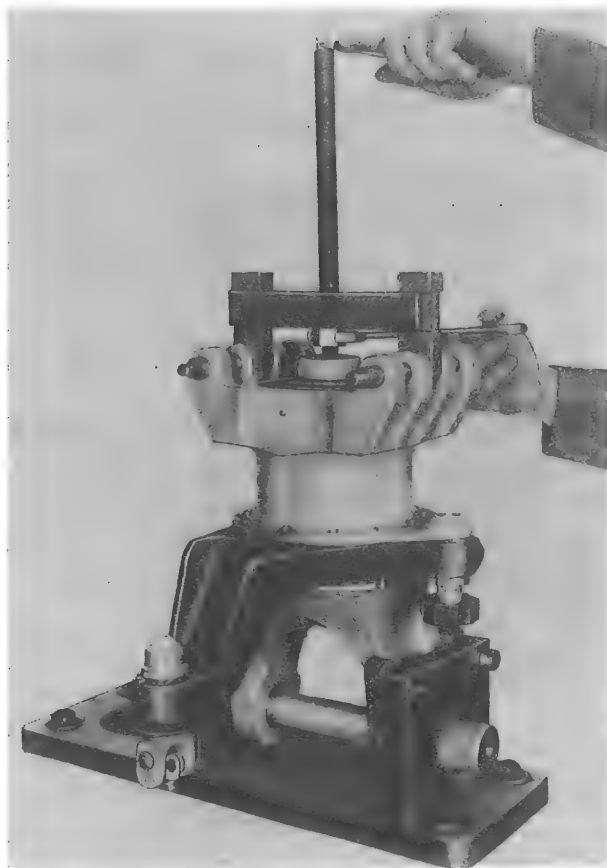

Figure 5-21. Pulling Sleeve and Bearing from Spindle
c. Pull sleeve (26) from spindle (18), using arm puller set, part No. S1670-10319-1 and part No. S1670-10319-2, and push puller, Owatonna part No. 927, as follows: Install arm puller between center ears of sleeve assembly and secure with taper pins. Place cap of push puller over plug in spindle. Set up forcing screw, forcing nut, and thrust washer of push puller and cross block. Hold forcing nut and tighten forcing screw to press sleeve assembly from spindle. (See figure 5-21.)